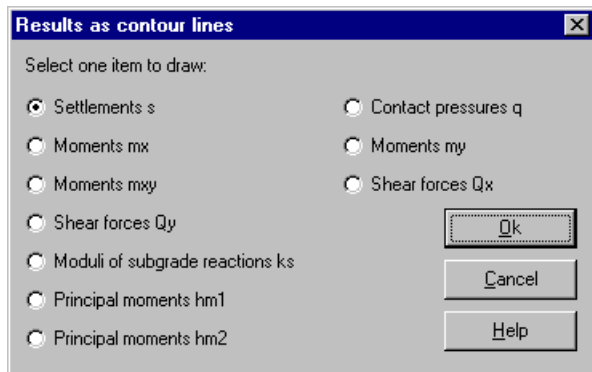

Figure 3-45 "Results as contour lines" option box
- Choose "Results as contour lines" command from "Graphic" menu of *ELPLA-Graphic*. The following option box in Figure 3-45 appears